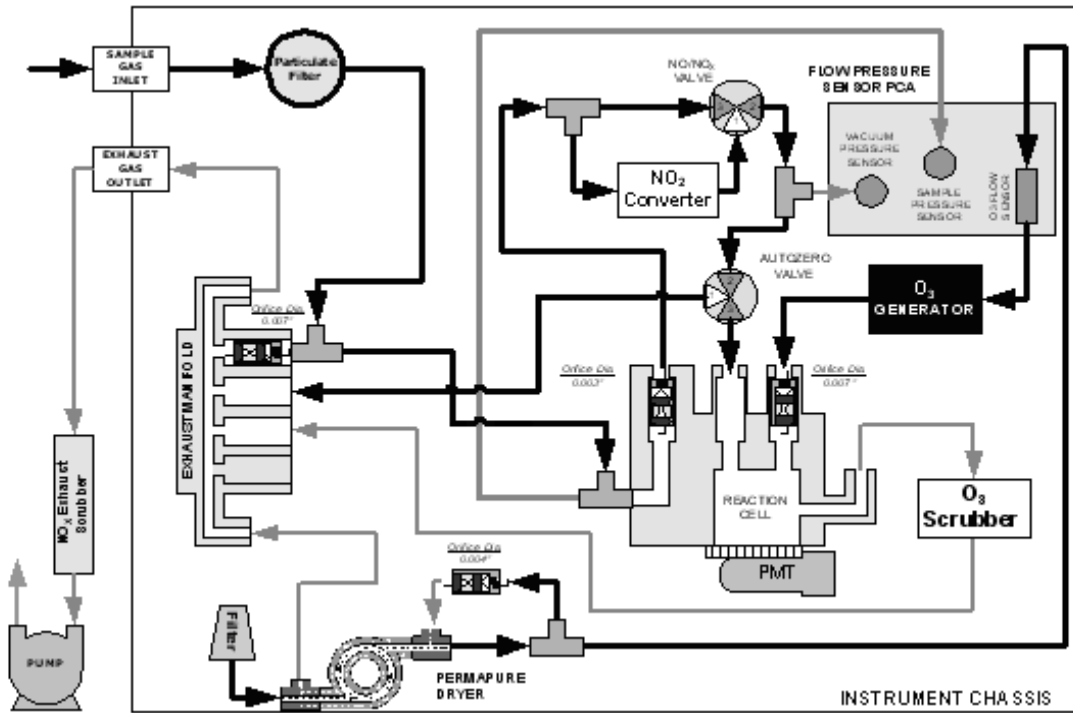

FIGURE 1 – M200EH old pneumatic layout
1. Comparing figures 1 and 2 will help to familiarize you with the components that are to be changed.
12. Locate the T fitting on the three-port reaction cell (see figures 1,2 &3).
16. Locate the bypass flow control assembly on the reaction cell (see figure 1,2,3)